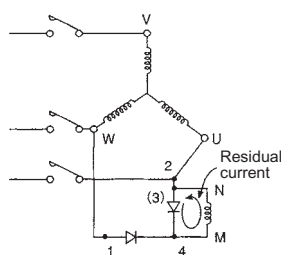
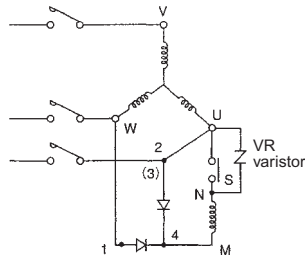
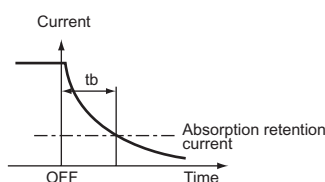
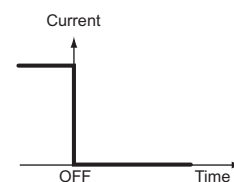

Fig. 24 Standard Circuit
Fig. 25 Quick Braking Circuit
Fig. 26 Current Reduction Curve in Standard Circuit
Fig. 27 Current Reduction Curve in Quick Braking Circuit
Fig. 24 and Fig. 25 show the difference between the normal braking circuit (standard circuit) and quick braking circuit.
Fig. 26 and Fig. 27 show the current reduction in the normal braking circuit (standard equipment) and quick braking circuit.
Residual current flows even after the power source is turned off for standard circuit (Fig. 24). This is because of the energy accumulated in inductance (L) of the brake coil. Fig. 26 shows the reduction curve of the residual current.
When the brake is connected to quick brake circuit (Fig. 25) and S is released as the power source is turned off, residual current will not flow (Fig. 27). This is because closed circuit does not form with braking coil.